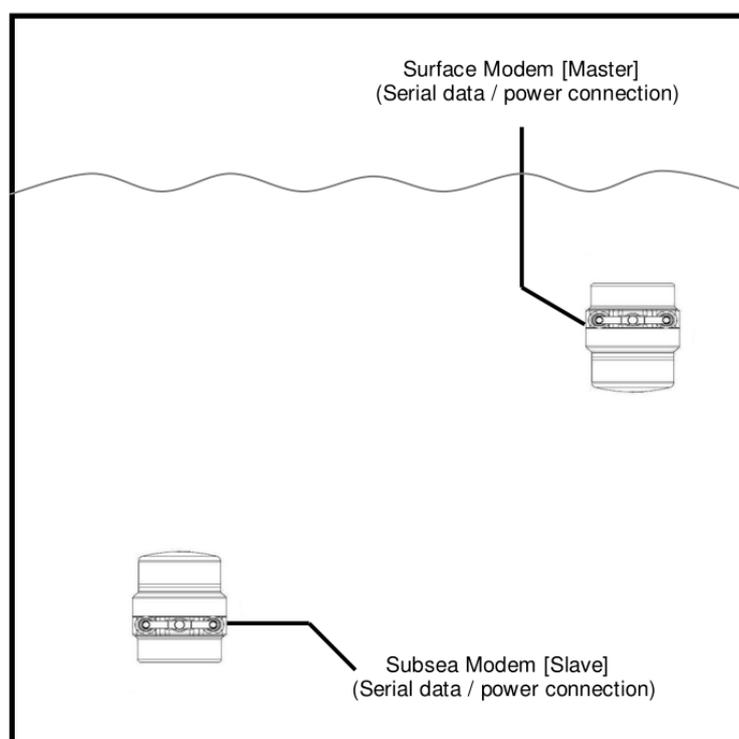

Figure 4.1. Pair of Micron Modems in Use
- The terms "Master" and "Slave" in Figure 4.1, "Pair of Micron Modems in Use" are used purely as an aid to system description. Either unit can transmit to and receive from the